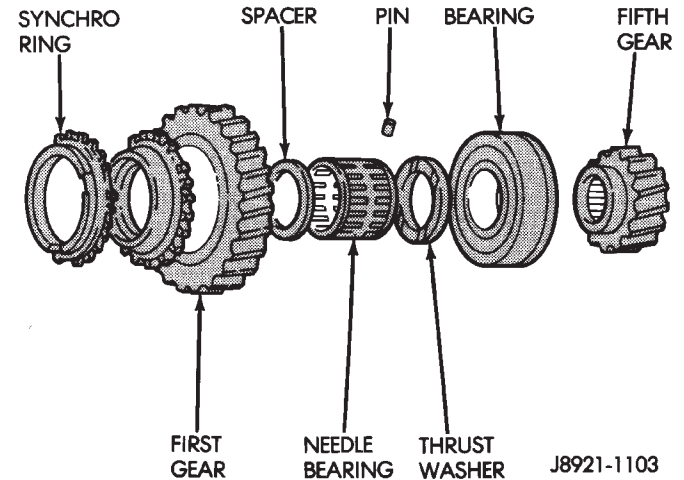

Fig. 79 First And Fifth Gear Components
- (15) Install synchro ring on first gear (Fig. 79).
(16) Install first gear spacer on shaft and against selective fit snap ring (Fig. 79).
(17) Install first gear and needle bearing (Fig. 79) on output shaft.
(18) Install locating pin and thrust washer on shaft (Fig. 79).